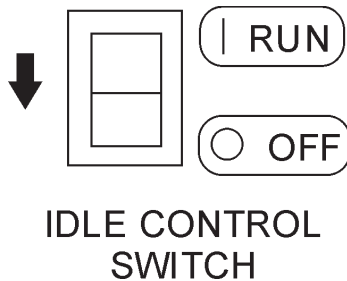

Figure 13. Idle Control Switch (Off)
- If the engine has started, slowly return the choke lever (Figure 13) to the "OPEN" position. If the engine has not started repeat steps 1 through 6.
- Place** the *idle control switch* (Figure 13) in the "OFF" (down) position. This will allow the engine speed to run at speed about 3600 RPM's